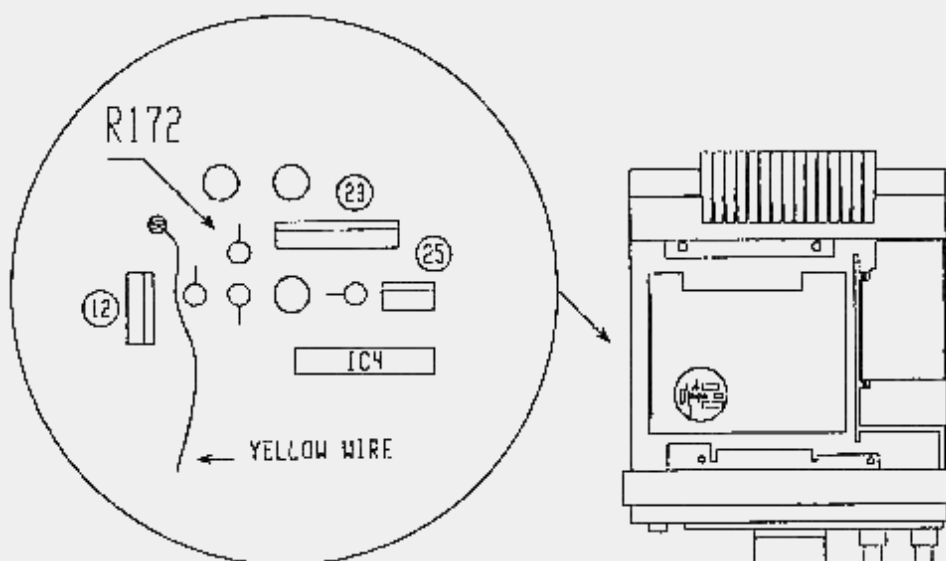

FIGURE 1
3. Locate resistor R172 on the component side of the IF board (Figure 1).